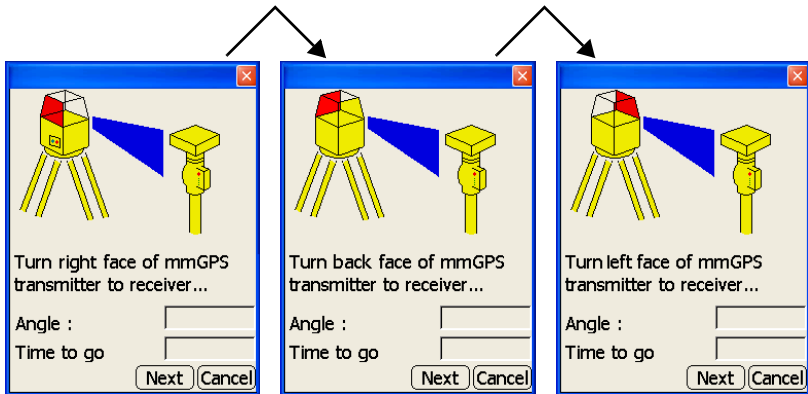

Figure 7-22. Transmitter Adjustment Process
8. Follow the on-screen instructions, pressing **Next** to measure (Figure 7-22). If indicated, check the setup listed on-screen.